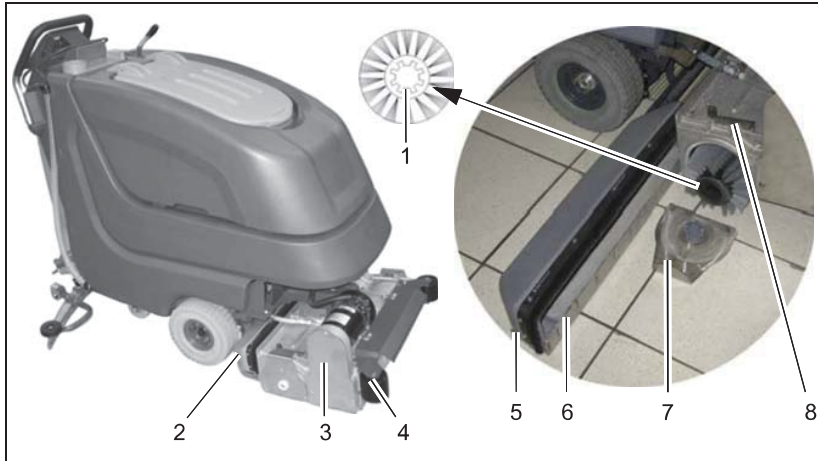

Fig.11
1. Insert brush into brush deck and let it catch (brush toothing (Fig. 11/1) as to point to the outside).
Check deflector rollers (Fig. 11/4) at weekly intervals and replace if required.